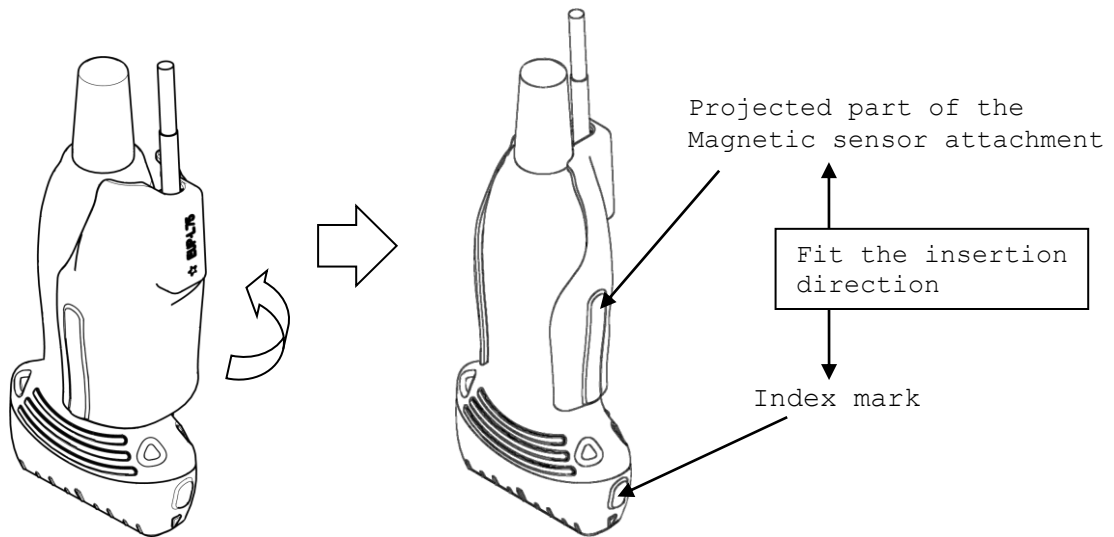

Fig.9 How to attach the Magnetic sensor attachment
- b) Place the magnetic sensor attachment on the probe as shown in Fig.9. Fit the projected part of the magnetic sensor attachment in the index mark of the probe.